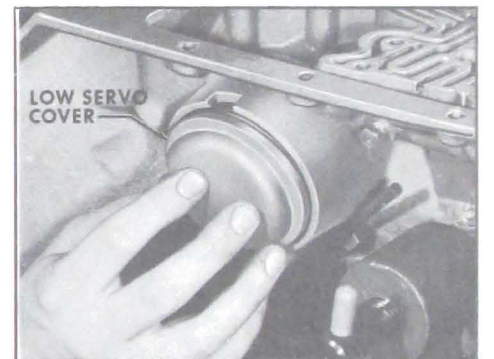

Figure 5-304
3. Install low servo cover to case. See Figure 5-304.